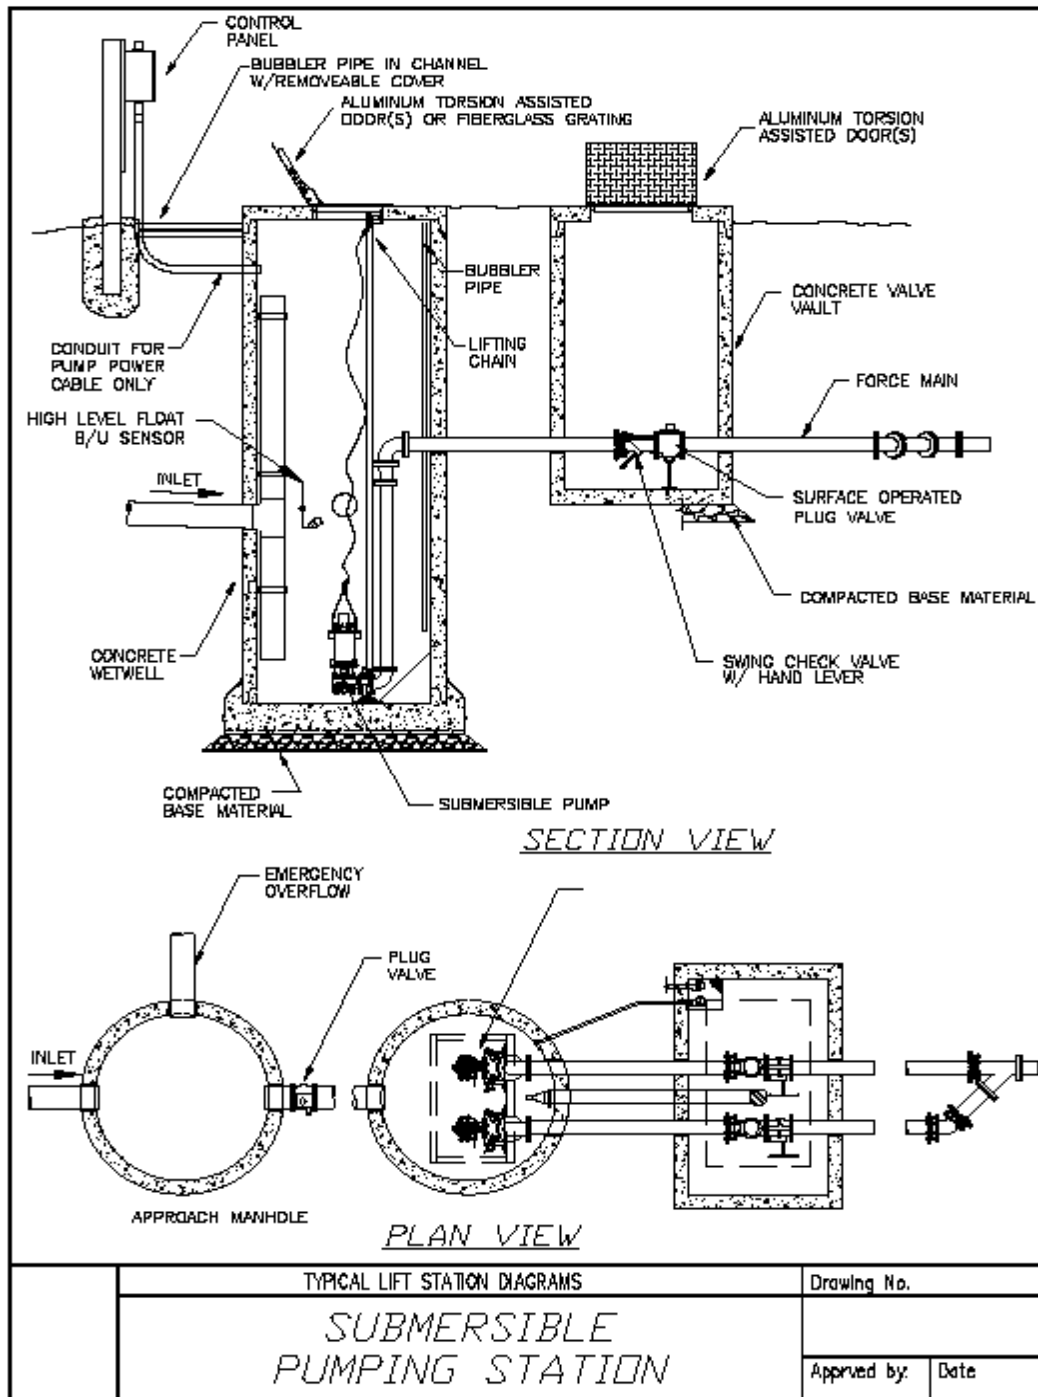

Figure 1
9. Provide a profile drawing, similar to Figure 1, showing the elevation of all critical components, including: pump intake inverts, control and alarm levels, top of wet well, top of dry well, influent and discharge line invert(s) and the inverts of any overflow to emergency storage.